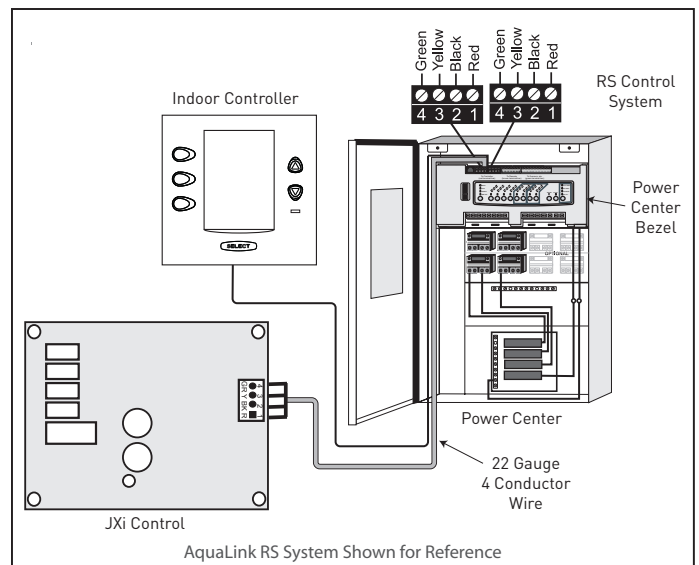

Figure 16. Wiring the JXi to a Zodiac® Remote
- Use 22 gauge 4-conductor wire to run between the heater and the control system and match the wire color order. See *Figure 16*.